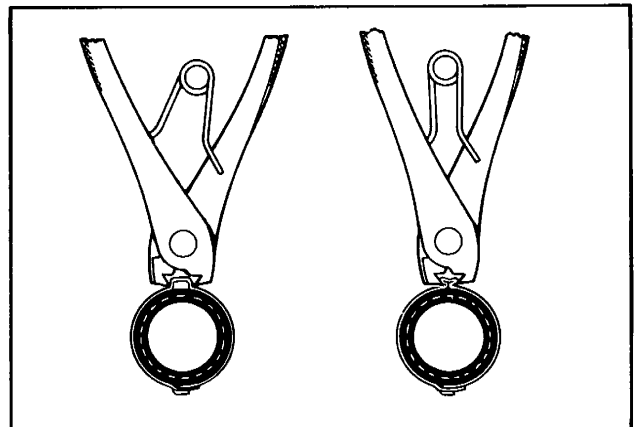

Figure 3-28. Hose Clamp Connection
11. See Figure 3-28. Connect oil lines to pump. Oil hose connections use one piece band type clamps which cannot be reused. Use HOSE CLAMP TOOL, Part No. HD-97087-65A, to squeeze new hose clamps tight.